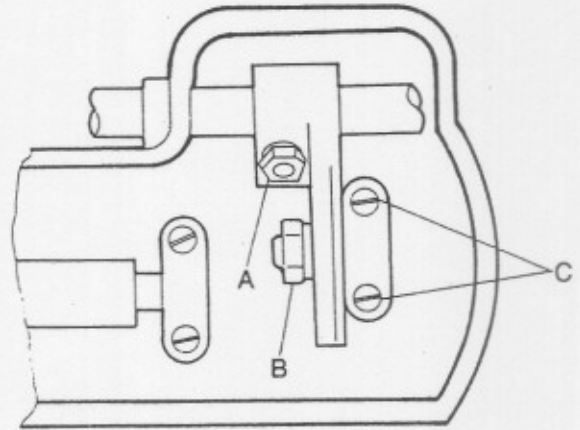

Fig 21
2. Loosen the puller driving connecting ball joining nut B in Fig. 21.
3. When the puller driving connecting ball joint C in Fig 21. is turned to counterclockwise, the moving becomes lesser, and is done contrarily, it becomes more.